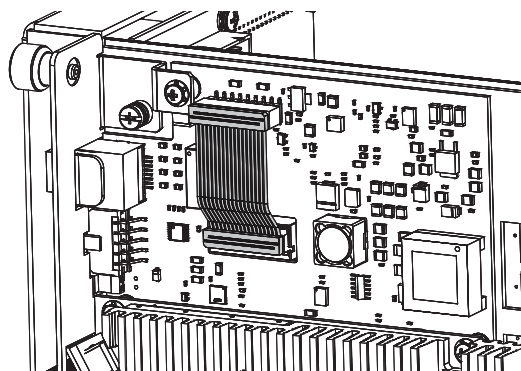

Fig. 7-4, Ribbon Cable Installation
- Install the 18-pin ribbon cable between the DM31 transponder and the inverter module (**Fig. 7-4, Ribbon Cable Installation**).